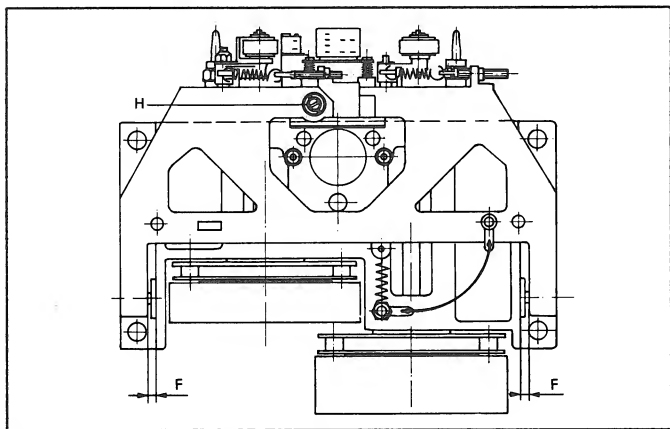

Fig. 3.3
If at all possible, the pivoting carrier should neither be removed nor should the engaged length be altered. Heads and pinch rollers etc. can be replaced without removing the pivoting carrier. The pivoting carrier is connected to ground via a stranded ground wire next to the retraction spring [E] (Fig. 3.3, bottom view).
- Check that the two slotted set screws are adjusted on the pivot of the carrier in such a way that the distance between pivoting carrier and double capstan carrier [F] is identical (Fig. 3.3).
- Push the pivoting carrier up until the cone point of the set screw [H] (Fig. 3.3) plunges into the centering pin and thus recenters the latter.
- Adjust the engaged length with the adjusting screw [H] (Fig. 3.3) in such a way that the opposite end of the measuring slide is located in the range of the milled markings